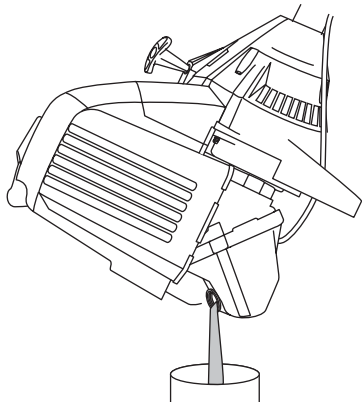

Fig. 24
3. Pour the oil out of the oil fill hole and into a container by tipping the unit to a vertical position (Fig. 24). Allow ample time for complete drainage.